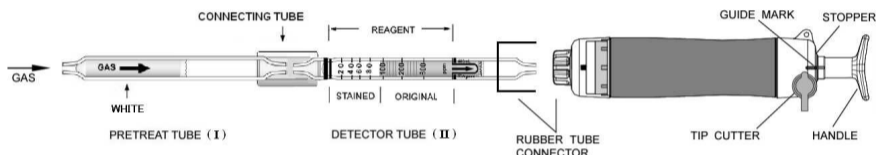

Fig.1
- ① Break both ends of the pretreat tube (I) and detector tube (II), and connect each end of the pretreat tube (I) and detector tube (II) with connecting tube as shown in Fig. 1.
- ② Insert the detector tube (II) into the aspirating pump securely as shown in Fig.1. (Arrow marks shall point to the pump.)
- ③ Align the guide marks on the shaft and stopper of the aspirating pump.
- ④ Pull the pump handle at a full stroke until it locks and wait for 3 minutes or until the completion of sampling is confirmed with the flow indicator of the pump. (See descriptions about the flow indicator in the instruction manual of the pump.)
- ⑤ On completion of sampling, read the scale at the maximum point of the stained layer.